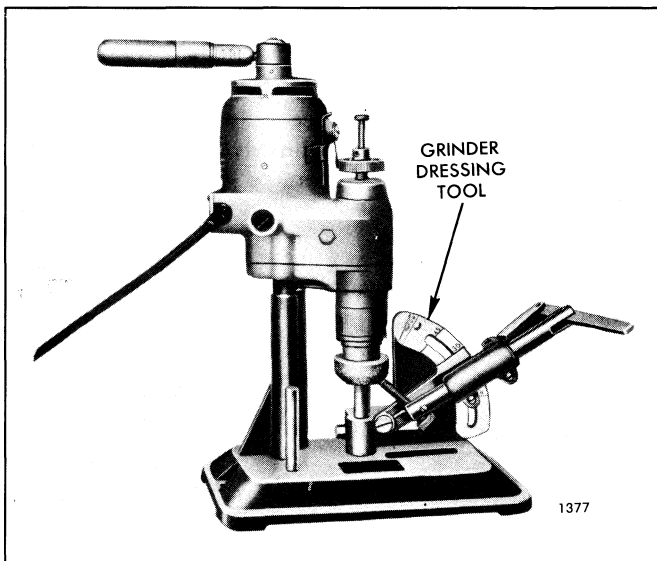

Fig. 15 - Grinding Wheel Dressing Tool
3. Grind the top surface of the insert with the 15° wheel to narrow the width of the seat to approximately 1/16". Do not permit the grinding wheel to contact the cylinder head when grinding the inserts. If necessary, the grinding wheel may be dressed to the correct seat angle with the tool provided in the grinder set (Fig. 15).